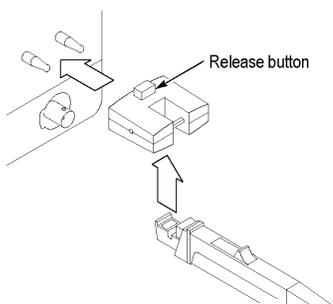

**Figure 2: Coarse Balance Adjustment**
6. If you cannot zero the display as described in step 5 c, use the coarse balance adjustment to center the range of the thumbwheel. (See Figure 2.)